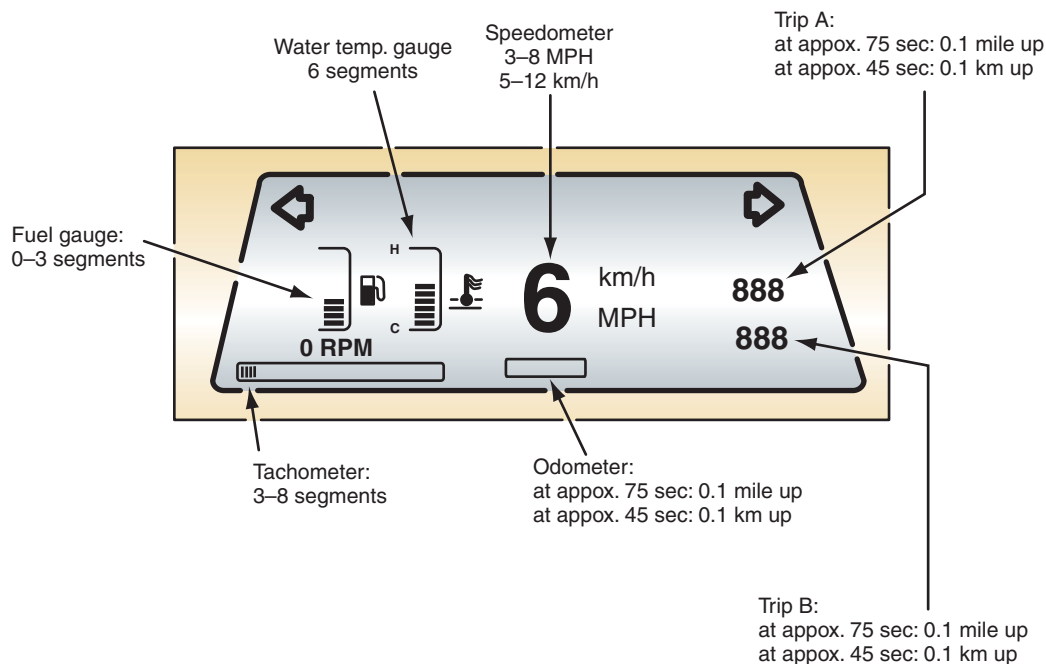

FIGURE 13-6 Display changes during the preprogrammed signal check.
6. Connect the negative battery cable, turn on the ignition switch, and observe the EIC displays. Each display should change to a specific reading (Figure 13-6). If each display changes as specified by the vehicle manufacturer, the EIC is satisfactory. When some of the displays do not change as specified, voltmeter and ohmmeter tests are required to locate the exact cause of the problem.